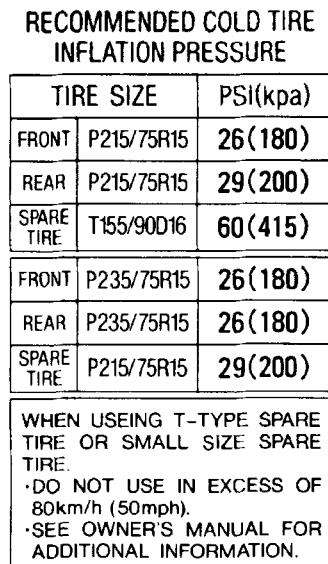

Figure 2
4. If a tire placard similar to the one shown below [Figure 2] was included with this letter, place the placard in the glove box, over the top of the original placard. The new tire pressures should be used when inflating vehicle tires.